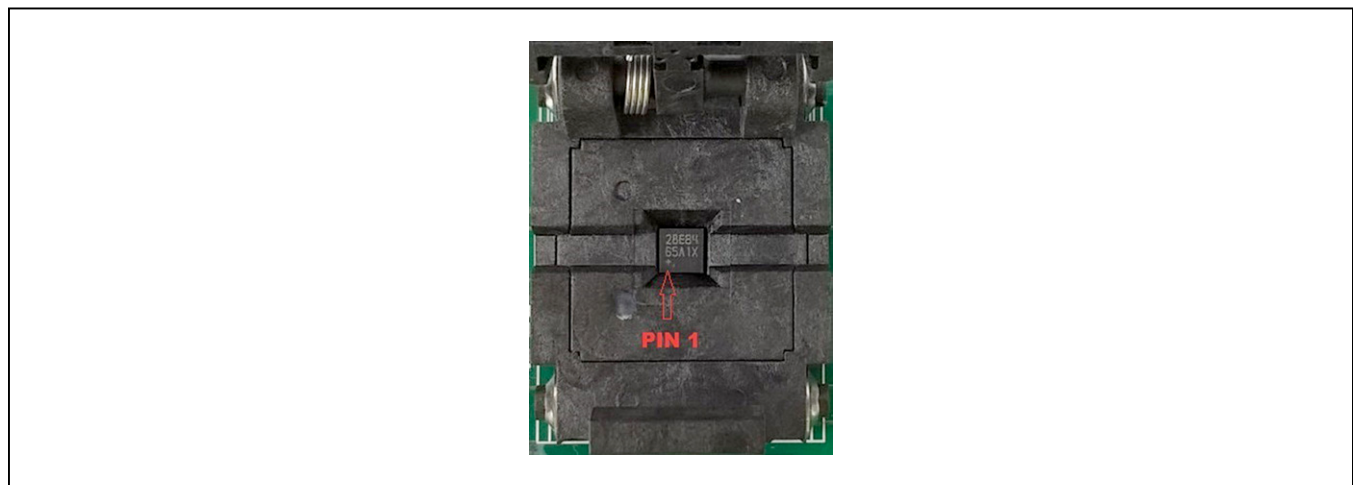

Figure 8. Orientation of the DS28E84 and DS2476 in the Burn-In Socket
- a) (Optional—Perform only if using the coprocessor): Open the 1st socket and insert a DS2476 into one of the cavities, as shown in Figure 8. **Note:** The plus (+) on the package must be on the opposite side of the marker in the socket.
- b) Open the 2nd socket and insert a DS28E84 into one of the cavities, per the same orientation shown in Figure 8.